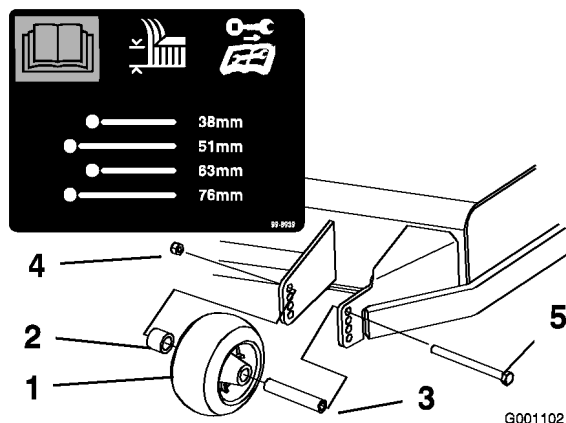
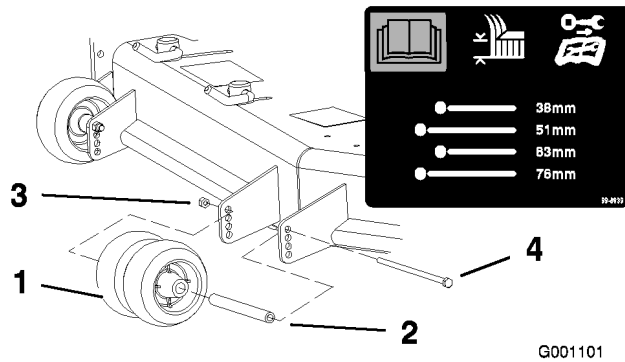
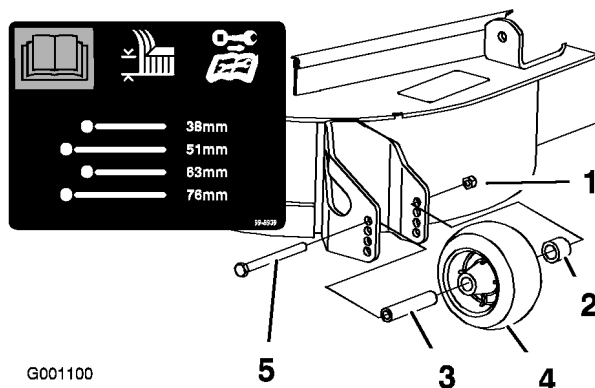

Figure 18
Figure 19
Figure 20
3. After adjusting the height-of-cut, adjust the rollers by removing the flange nut, bushing, spacer, and bolt (Figure 18 , Figure 19 and Figure 20).
Note: The two middle rollers will not have a spacer (Figure 19).
5. Install the flange nut bushing, spacer, and bolt. Torque to 40-45 ft-lb (54-61 N•m) (Figure 18 , Figure 19 and Figure 20).